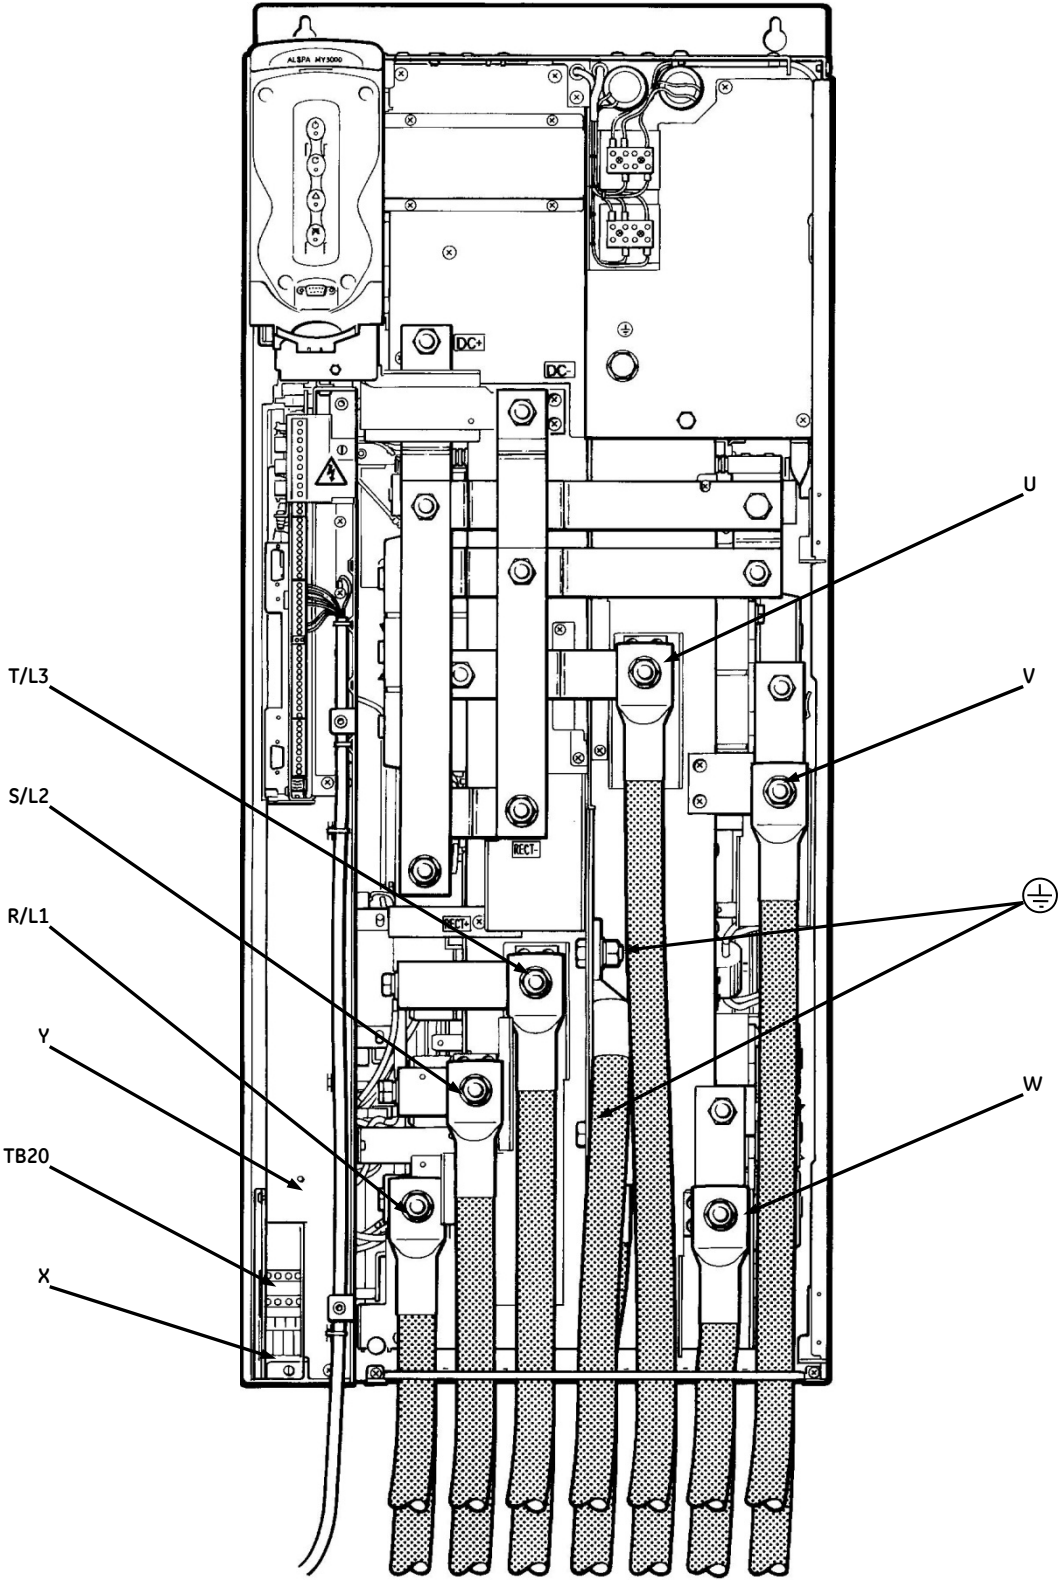
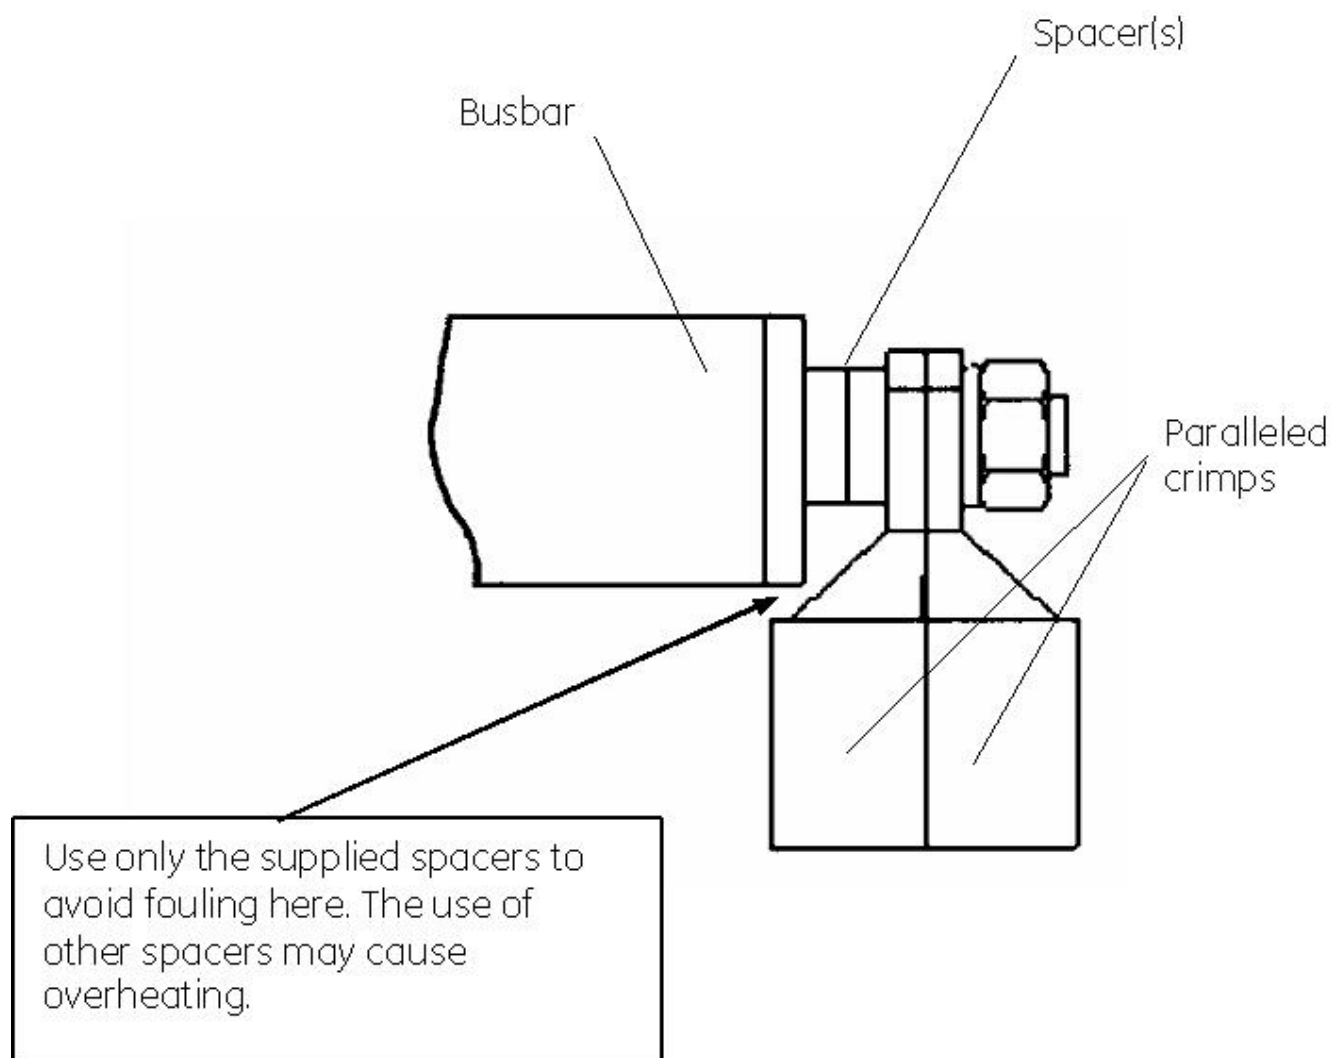

Figure 3-11. – Power Connections for Frame Size 7
Figure 3-12. – Use of Spacers to Avoid Fouling Busbar
- a) Referring to Figure 3-12, connect the motor supply cables to terminals U, V and W on the drive. Note that the diagram shows paralleled connections. For making parallel connections with smaller cable sizes, copper spacers have been provided to space the crimps off the busbars, as shown in Figure 3-11. Where sizes above 2x300 mm2 are required (2x600 MCM), insulated busbars may be connected directly to the terminals.